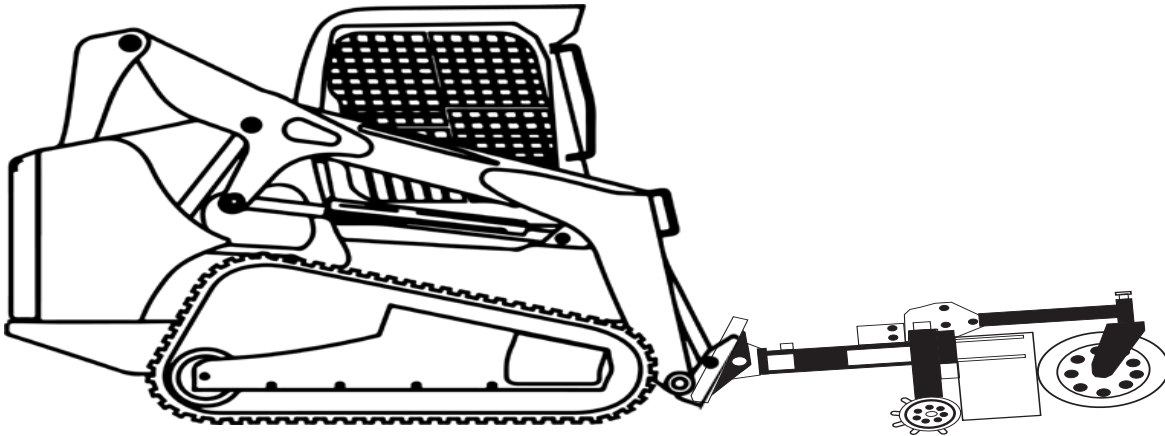

Figure 3.1a - Power Rake Mounting
2. Tilt the skid steer loader quick attach coupler slightly down and drive forward to the rear of the power rake until the top edge of the quick attach coupler connects into the attachment bracket. Slightly tilt the skid steer quick attach coupler up until the coupler and attachment bracket fully engage. See figure 3.1a on next page.